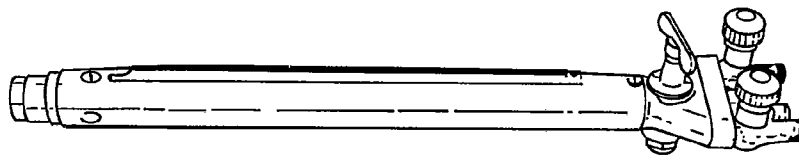

Figure 8—Three Hose Machine Torch
(3) *Machine Torch* (see Figure 8). A torch consisting of a rear body usually equipped with valves to control the oxygen and fuel gas, tubes to carry the gases, and a head to accept the cutting tips—all